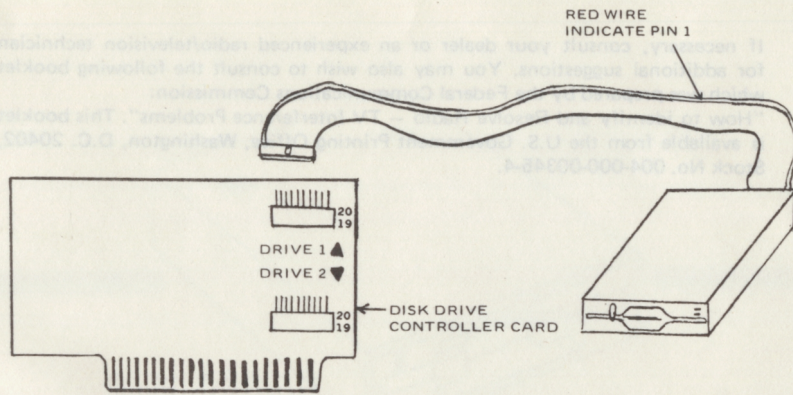

FIGURE 1
4. See figure 1, plug the cable onto the controller card.